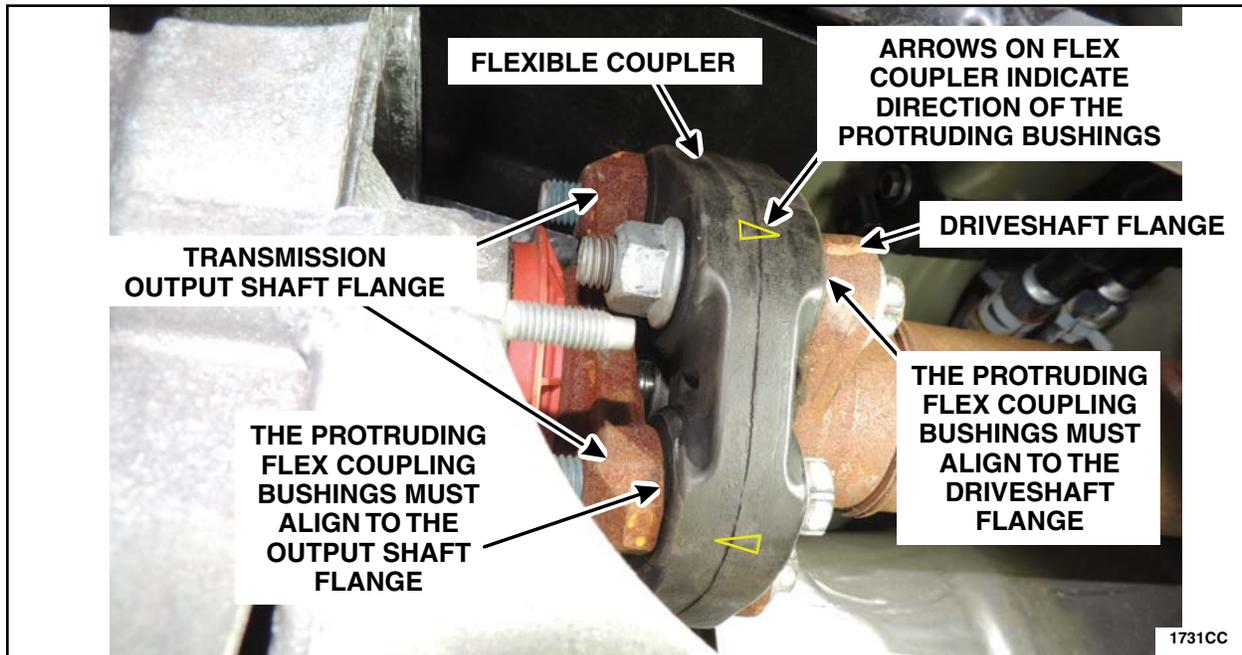

FIGURE 12
12. Reinstall the driveshaft with the appropriate center bearing shim according to the chart in Figure 13. Please follow the Driveshaft Removal and Installation Workshop Manual (WSM) procedure in Section 205-01. See Figures 12, 13 and 14.
NOTICE: The flex coupling must be installed with the blue paint mark facing the transmission output flange. The protruding flex coupling bushings must align with the driveshaft flange and transmission output flange. Arrows should point at the ears of each flange shown in Figure 12.